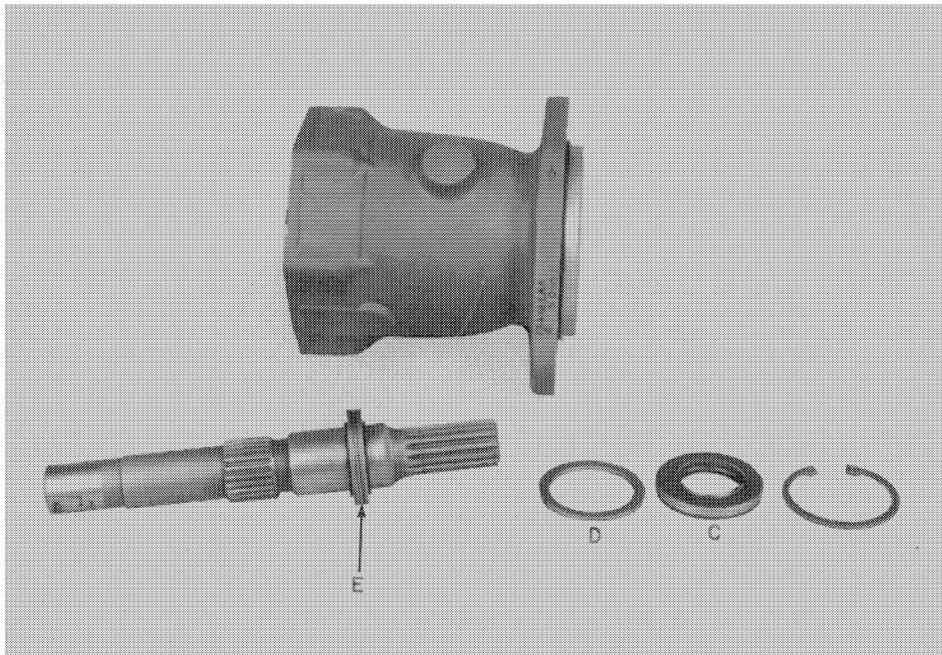

FIGURE 12
10. Remove the shaft seal, C, Figure 12, from the housing. Remove washer, D, and then remove drive shaft from housing.
11. Remove snap rings, thrust washers, and thrust bearing at E, Figure 12.
2. Install snap rings, thrust bearing, and thrust washers, E, Figure 12, on drive shaft.
3. Install drive shaft in housing and install washer, D, Figure 12.